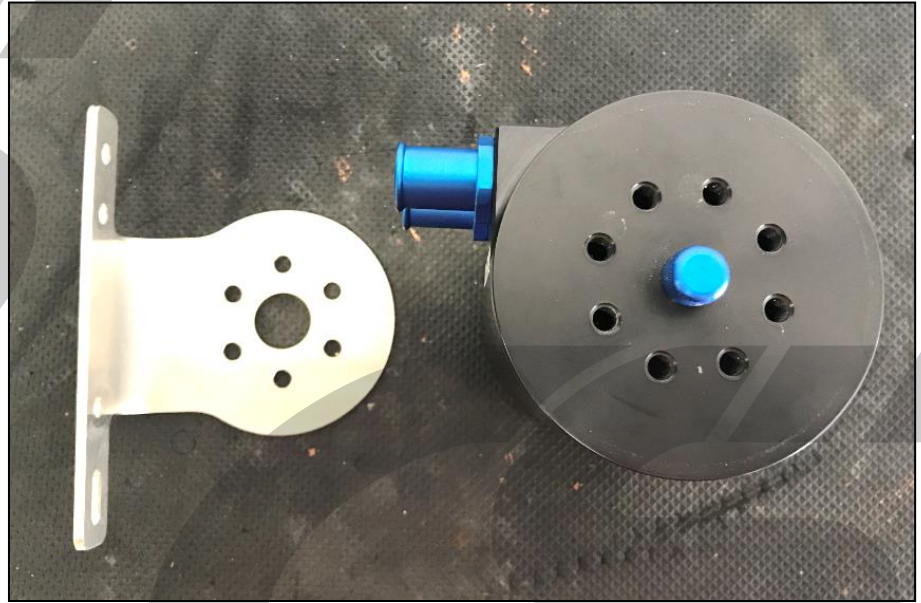

Figure 2a
d) **Locate hardware for installation.** Locate the 35mm long M6 bolts and the large outer diameter M6 washers. Install the washer onto the bolts as shown in Figure 2a.